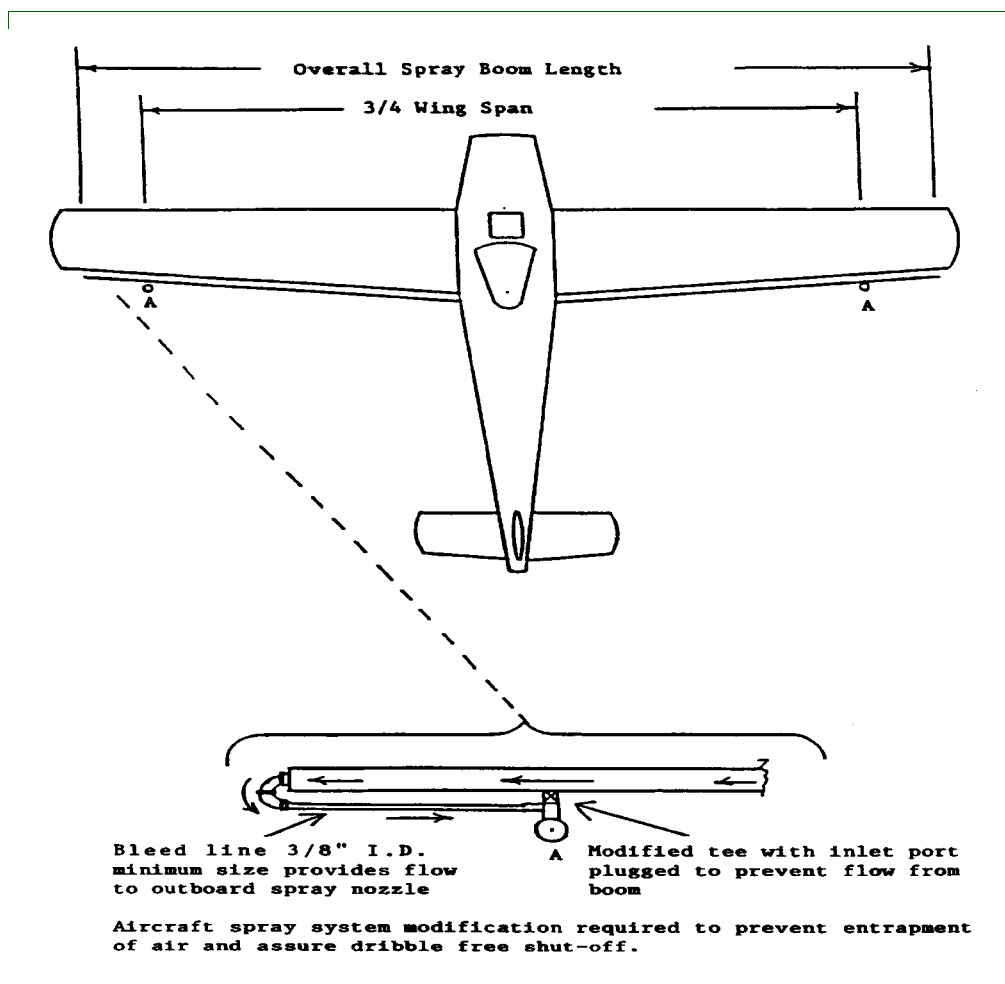

FIGURE L-1: Diagram of spray boom flow through bleed line to outer nozzles
Evacuate air from boom ends by either: 1) opening end caps slightly, 2) installing valves in boom tips; or (3) connecting outboard atomizer inlet to outermost boom port. See **Figure L-1** for diagram.